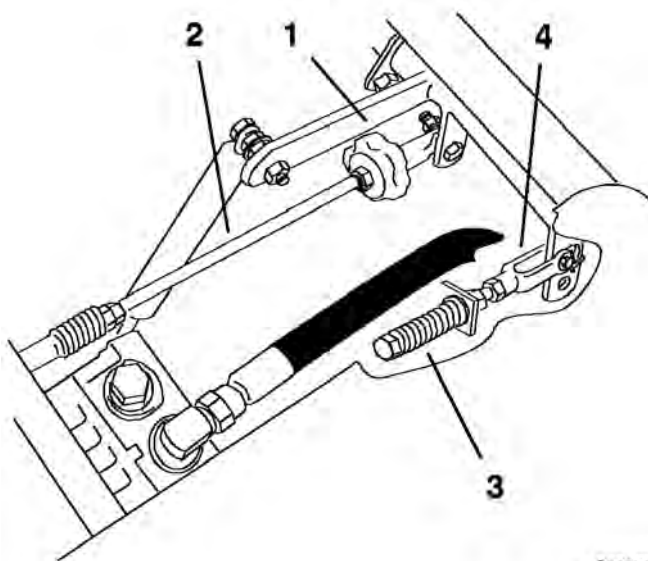

Figure 66
2. Adjust the pump rod length by rotating the knob, in the appropriate direction, until the wheel is still or slightly creeping in reverse (Figure 66).